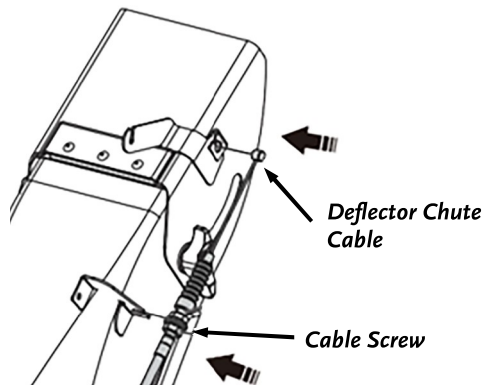

Figure 14
4. Insert eyelet end of the Deflector Chute Cable into the Hole. Secure the Cable Screw in the Slot and tighten the M8 Nut (**Figure 14**).